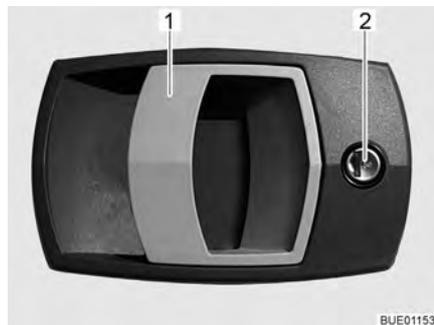

Fig. 26 Door lock of conversion door, outside
- Insert the key into locking cylinder (Fig. 26,2) and turn until the door lock is unlatched.
- Pull on the handle (Fig. 26,1). The door is open.
- Insert the key into locking cylinder (Fig. 26,2) and turn until the door lock is engaged.